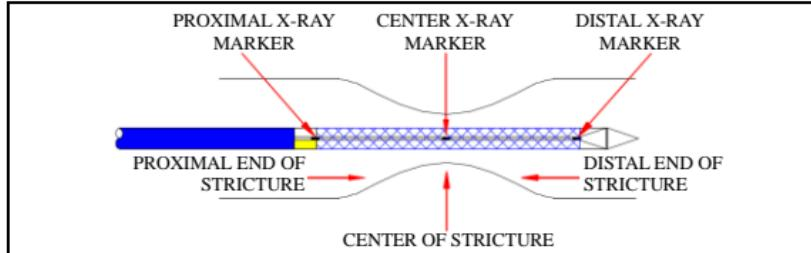

Figure 4
- d) When the center X-ray marker reaches the center of target stricture, continue pulling back on the connector until the stent is fully deployed. (See figure 4, 5)
- d) When the center X-ray marker reaches the center of target stricture, continue forwarding toward the connector until the stent is fully deployed. (See figure 4, 6)